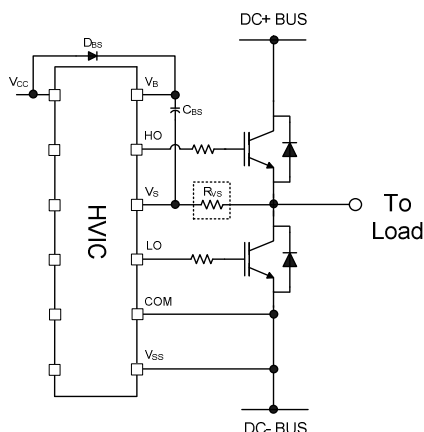
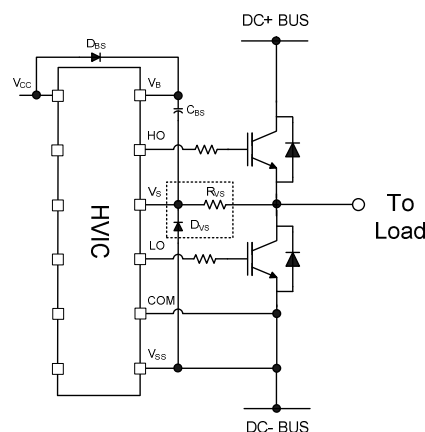

Figure 22:  $V_S$  resistor
Figure 23:  $V_S$  clamping diode
**Routing and Placement:** Power stage PCB parasitic elements can contribute to large negative voltage transients at the switch node; it is recommended to limit the phase voltage negative transients. In order to avoid such conditions, it is recommended to 1) minimize the high-side emitter to low-side collector distance, and 2) minimize the low-side emitter to negative bus rail stray inductance. However, where negative  $V_S$  spikes remain excessive, further steps may be taken to reduce the spike. This includes placing a resistor ( $5\ \Omega$  or less) between the  $V_S$  pin and the switch node (see Figure 22), and in some cases using a clamping diode between COM and  $V_S$  (see Figure 23). See DT04-4 at [www.irf.com](http://www.irf.com) for more detailed information.